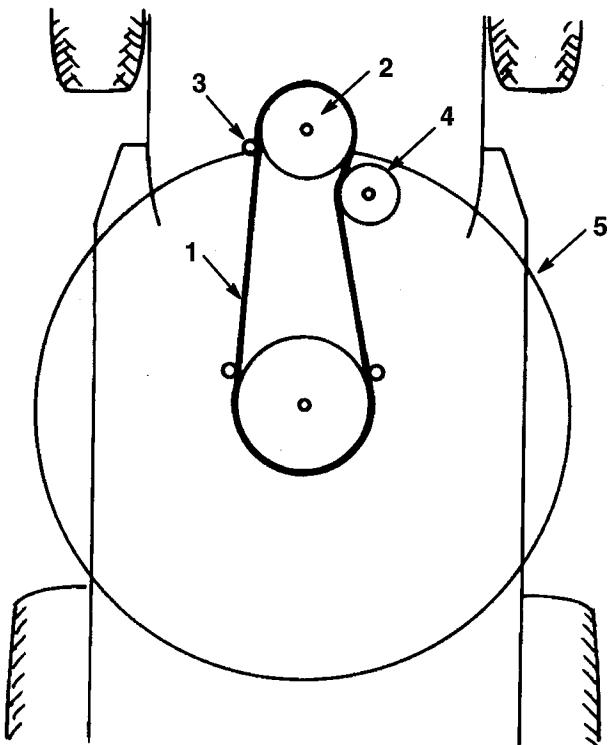

Figure 38
10. Remove the mower belt from the lower engine pulley (Fig. 38). If you are careful, you can flex the belt guide(s) just far enough away from the pulley to remove the belt. If it is too difficult to remove the belt, loosen the bolts and nuts securing the belt guides.
- Install mower belt onto the lower engine pulley (Fig. 38). If you are careful, you can flex the belt guide(s) just far enough away from the pulley to install the belt. If it is too difficult to install the belt, loosen the bolts and nuts securing the belt guides.